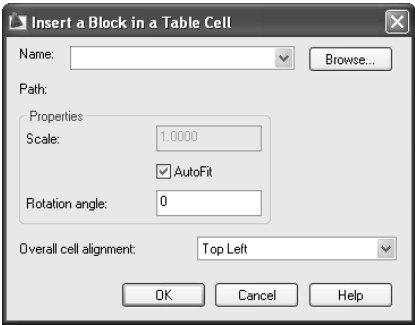

Figure 9.30 The Insert a Block in a Table Cell dialog box
- 2. Click the Block tool in the Table tab’s Insert panel to open the Insert a Block in a Table Cell dialog box (see Figure 9.30).